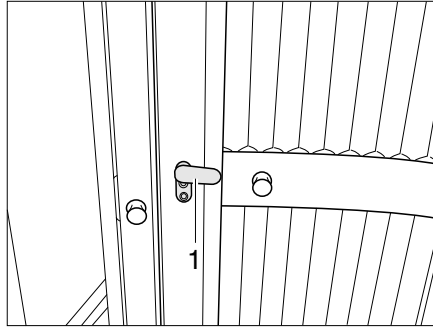

Fig. 360 Vario toilet, toilet door
- Put the latch (Fig. 360,1) of the toilet door in a vertical position and open the inner part of the toilet door.
- Turn the inner part of the toilet door and to close, place the latch (Fig. 360,1) in a horizontal position.